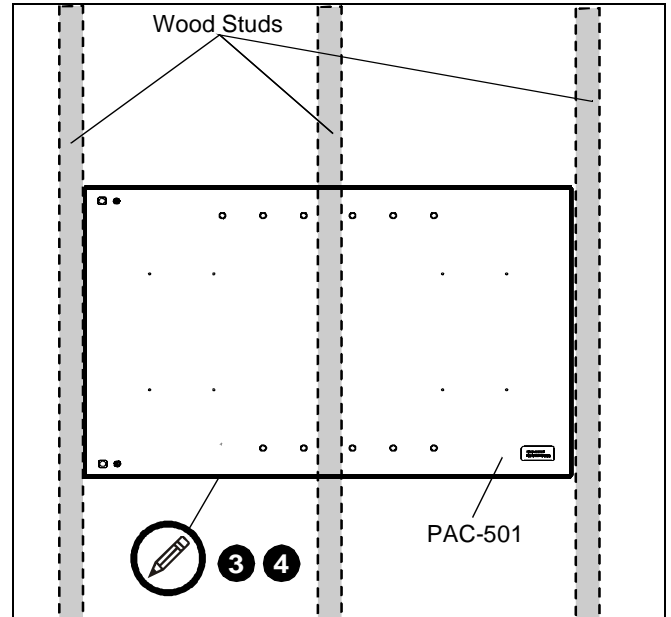
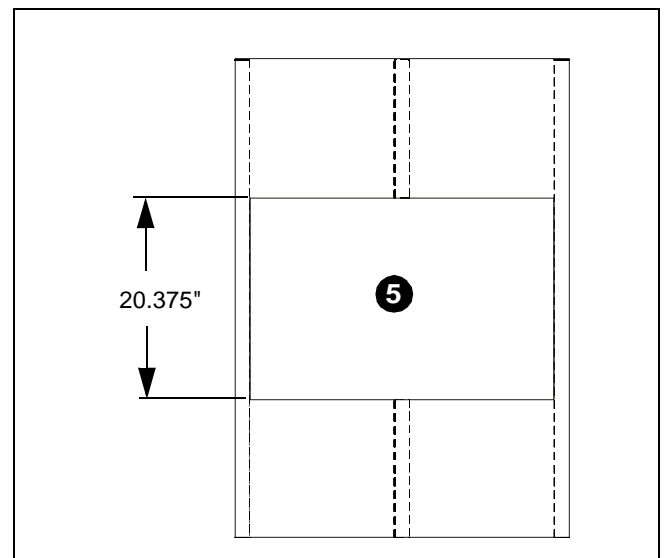

Figure 1
Figure 2
IMPORTANT ! : The following installation procedure assumes that a Chief PAC501 In-Wall Enclosure has been purchased and is available for use during this procedure. If a PAC-501 is not available, or there are any other questions regarding the installation of this accessory, contact a Chief Customer Service representative by calling 1-800-582-6480 or by visiting www.chiefmfg.com. Dimensions for creating opening in the wall without having the PAC-501 as a template can be found in step 4 and figure 2 below.
3. Center and level PAC501 housing between marked studs. (See Figure 1)
4. Using PAC501 housing as a template, draw pencil line around housing. (See Figure 1)
NOTE: If the PAC501 enclosure is not available mark opening to height dimension identified in figure 2 and to inside stud edge on either side.
5. Cut drywall on *outside* edge of line and remove drywall. (See Figure 1) and (See Figure 2)
WARNING: STRUCTURAL FAILURE HAZARD! FAILURE TO TAKE ADEQUATE PRECAUTIONS CAN LEAD TO DEATH OR SERIOUS INJURY! Ensure removal of center stud will not cause unacceptable loss of structural strength. Consult a qualified building contractor and applicable building codes. (See Figure 2)
1. Remove exposed portion of center stud flush with upper and lower drywall edges. (See Figure 2)